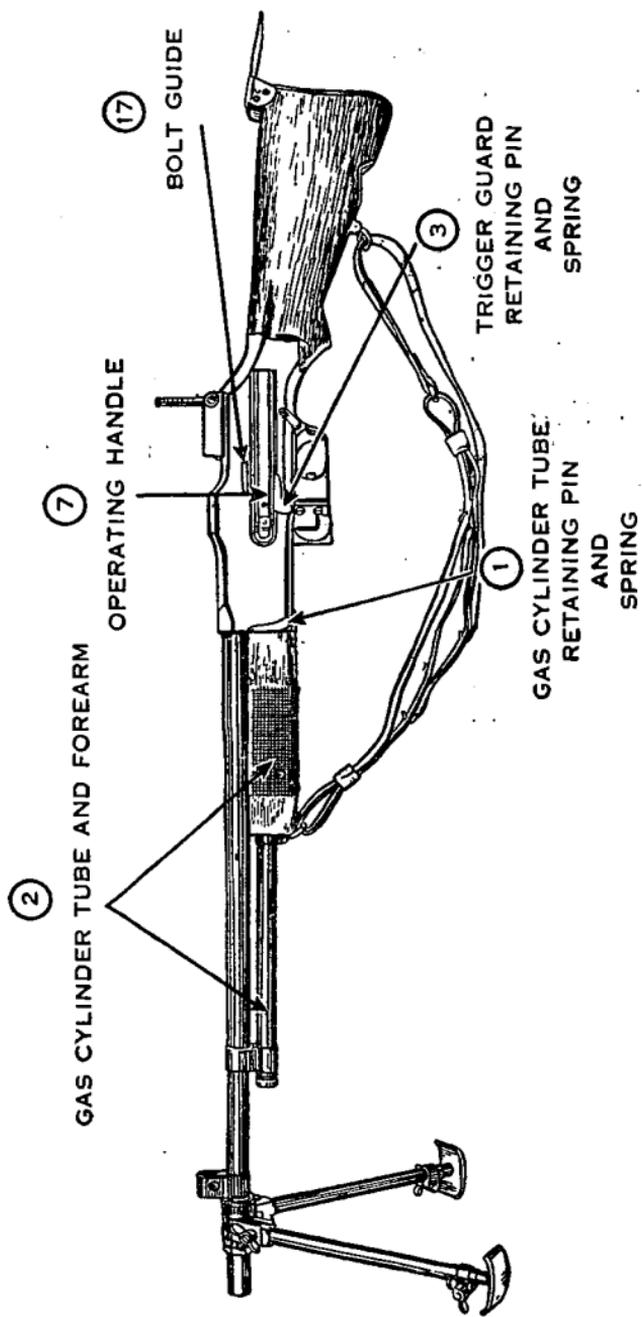

FIGURE 1.—Browning automatic rifle, caliber .30, M1918A2.
■ 2. DESCRIPTION.—The Browning automatic rifle, caliber .30, M1918A2, is an air-cooled, gas-operated, magazine-fed shoulder weapon with bipod (fig. 1). It weighs approximately 20 pounds with sling. The ammunition is loaded in magazines of 20 rounds. The weight of the magazine when empty is 7 ounces; when filled, 1 pound 7 ounces.
(1) *Operating group* (figs. 1 and 2).—Lay rifle on a table, barrel down, pointing to the left. Cock the rifle. Turn gas cylinder tube retaining pin spring (1) 180° in a clockwise direction and pull out gas cylinder tube retaining pin and spring (1). Remove gas cylinder tube and forearm (2). Let slide (10) forward *easily* by pressing trigger with thumb of the right hand and at the same time grasping the slide with the left hand so that the middle and index fingers are astride the gas piston. Turn trigger guard retaining pin spring (3) 90° in a clockwise direction and pull out the pin and spring (3). Lift out trigger group (4). Remove recoil spring guide (5) by pressing right index finger on checkered surface of its head and turning it until ends are clear of the retaining shoulders. Remove recoil spring (6). Line up hammer pin holes in receiver and operating handle by inserting point of recoil spring guide in hole in operating handle with right hand, press against hammer pin (8) until it clears the
(3) Replace magazine release (22). Replace magazine catch (21), spring depression facing out. Replace magazine catch pin (20). Replace magazine catch spring (19). Insert ejector (18) into recess and move it down until it is flush with the magazine catch spring. Compress magazine catch spring in its seat and move ejector down until it is flush with the ejector lock. Depress the ejector lock with the base of a dummy cartridge and push ejector home until the ejector lock is in its proper position.
(4) After trigger mechanism has been assembled, turn change lever to forward position, and pull trigger. If connector will not rise, it is not in place correctly. It should rise and snap out from under sear. If connector will rise but does not raise sear, the middle leaf of the sear spring is weak and the sear spring should be replaced.
c. Operating group (figs. 1 and 2).—Replace extractor spring (16) in the extractor with the short end in the hole and the long end along the groove in the side. Place extractor (15) in its seat in the bolt. Replace bolt link (13) in the bolt lock with the shoulder of the link against the flat surface of the bolt lock. Replace bolt link pin (12). Lift bolt lock and insert the firing pin (11) in its receptacle in the bolt. Lay rifle barrel down and pointing to the left so that rifle is resting on the front sight cover and rear sight base. With bolt (14) and its assembly held in a perpendicular position, insert it in the receiver between the bolt guide and the rear ends of the bolt supports. Press the assembled bolt down so it will lie flat in its place. With bolt link down, push bolt forward. Replace slide (10) with the sear notch up, and push it back all the way. With hammer (9) held with the thumb and forefinger of the left